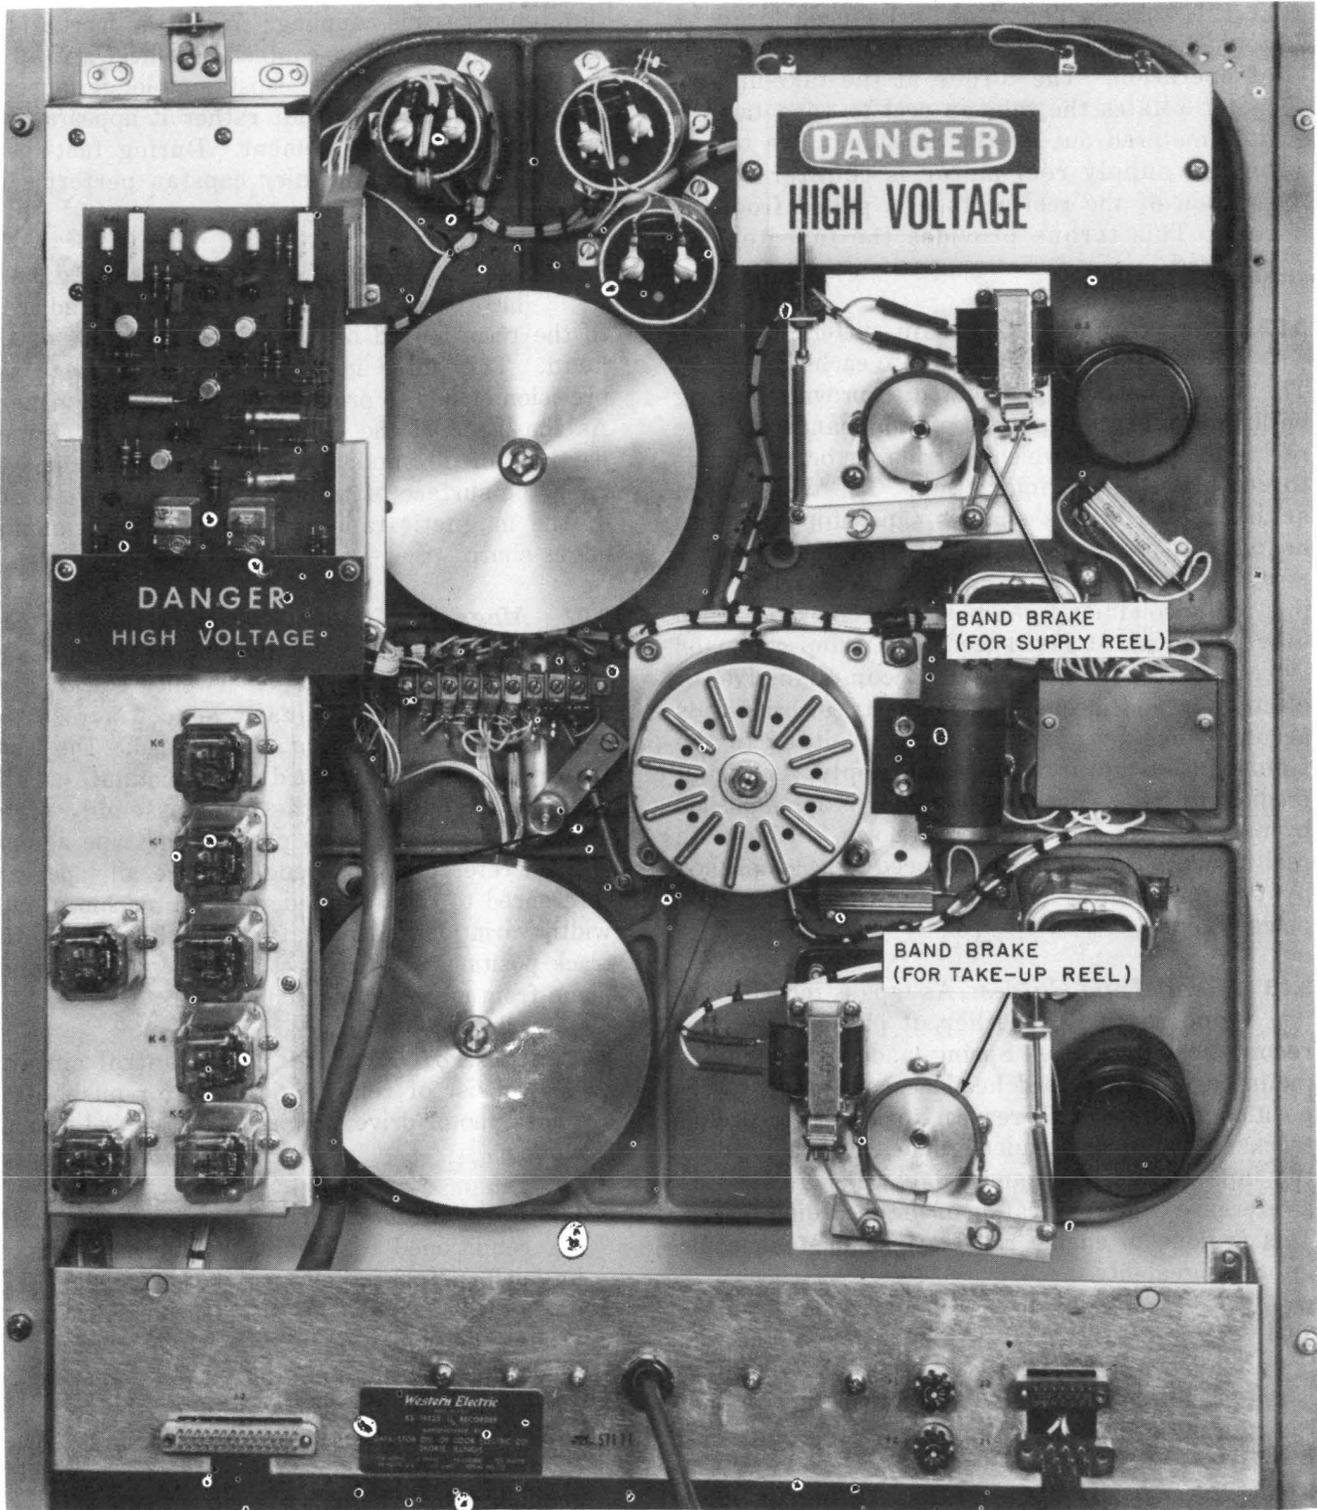
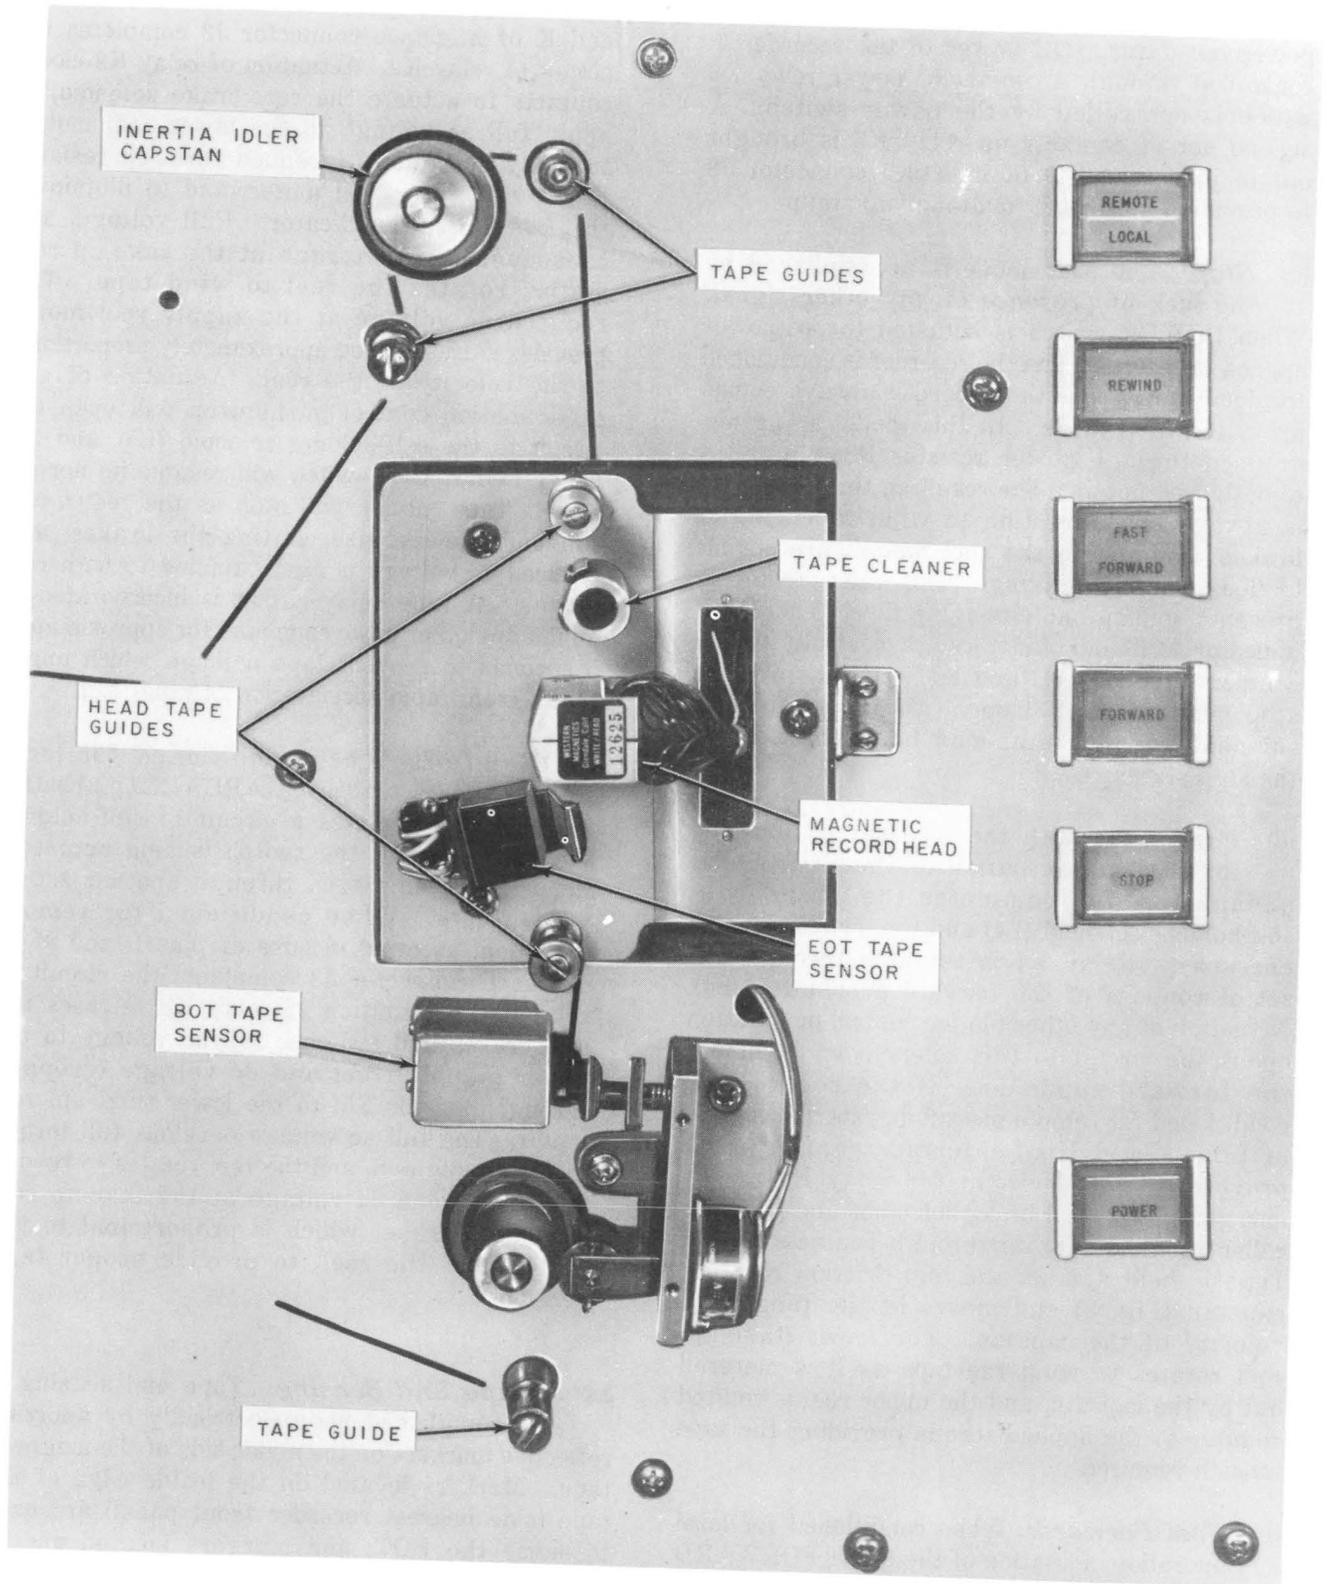

Fig. 4—KS-19325 L1 Recorder—Rear View With Cover Removed
Fig. 5—Magnetic Head Assembly Area With Solenoid Cover Removed
3.02 Reel Brakes: A fail-safe, differential band brake (Fig. 4) is mounted to each reel motor. The brakes are spring actuated to provide braking with power off. Tape motion commands activate reel brake solenoids which override the brake springs to remove the braking action. The differential action of the brakes enables tape stoppage with no damage to the tape or recorder in case of a power failure. Tape is brought to a stop and is in a ready condition when power is removed. When tape is moving at fast speed and a stop command is received, reel braking is accomplished both electrically and mechanically. Electrical braking is accomplished by applying full dc voltage to the field of the motor acting as supply reel (reel feeding off tape). Mechanical braking is accomplished by releasing the band brake solenoids, setting both reel brakes. Stop from high speed is accomplished by the mechanical brakes alone in the case of power failure.
3.03 Head Tape Guides: As tape is moved from one reel to the other, it passes over the record head (Fig. 5). Spring-loaded tape guides mounted on the record head assembly accurately position the tape with respect to the 20 recording tracks. The spring-loaded guides always position the tape against the same edge which is used as a reference edge for location of the recording tracks. This is done to enable reliable machine-to-machine interchangeability.
3.05 Inertia Idler Capstan: An inertia idler capstan (Fig. 5) is incorporated in the tape path to reduce instantaneous speed variations in the speed of the tape during recording (tape moving at 1 1/4 inch per second). This capstan is accelerated by the tape when tape motion is initiated. A flywheel (Fig. 4) is coupled to the inertia idler
3.06 Tape Cleaner: A tape cleaner (Fig. 5) is incorporated on the head assembly adjacent to the record head on the supply reel side of the head. The holes in this perforated piece are precision etched to provide sharp scraping surfaces. As the oxide of the tape passes over the cleaner, particles of dirt and foreign material are removed from the surface of the tape. The abrasive action of the magnetic tape acts to keep the cleaning edges sharp.
(a) **Local/Remote:** The recorder is alternately conditioned for remote control or for local (manual) control by actuation of the LOCAL/REMOTE pushbutton (Fig. 5) located on the front panel. When conditioned for local operation, tape motion is controlled by four indicator pushbutton switches, also located on the front panel of the recorder, while remote control signals are inhibited. When conditioned for remote, circuits are completed enabling remote signals to control the tape motion while local manual controls are inhibited.
3.09 Tape End Sensing: Tape end sensing is accomplished photoelectrically by applying reflective markers on the mylar side of the magnetic tape. Markers located on the inside edge of the tape (side nearest recorder front panel) are used to sense the EOT, and markers located on the outer edge are used to sense the BOT. When a tape marker passes under the tape sensor (Fig. 5), light from a lamp mounted in the sensor is reflected off of the marker onto a photoresistor which is also mounted in the sensor. The circuitry for both
4.01 Controls and Indicators: Pushbutton indicators (Fig. 5) located on the front panel of the recorder are operated as follows.